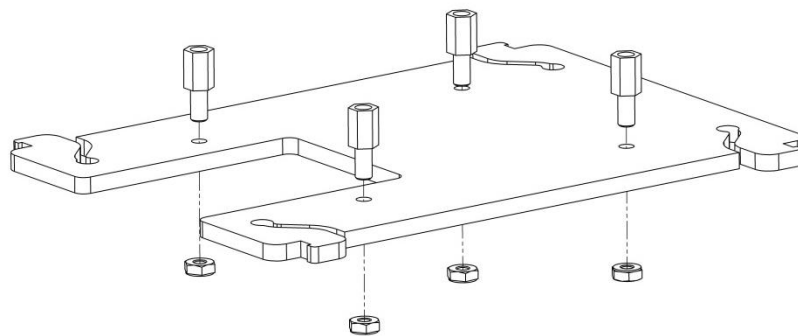

Figure 1
- 3) Feed 4x M2.5x8 M-F hex stand-offs through the base plastics as shown below, heeding the orientation shown in *Figure 1* below.